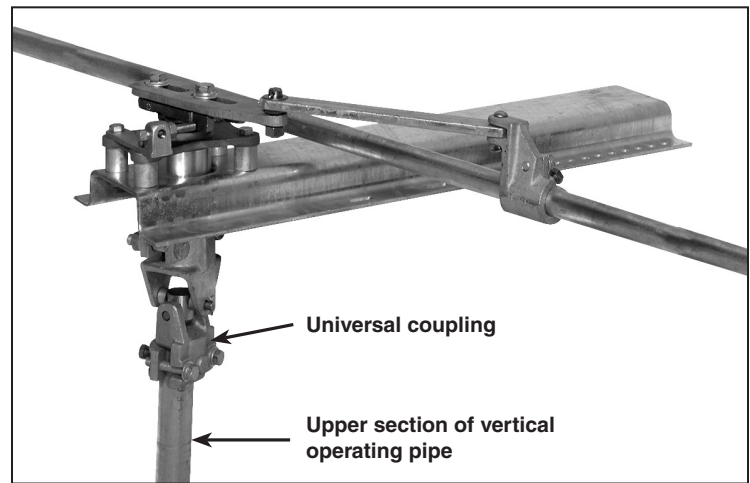

Figure 18. Install the uppermost section of the vertical operating pipe.
STEP 13. Insert the uppermost section of the vertical operating pipe into the universal coupling attached to the underside of one of the switch poles or to the outboard bearing assembly, as described in Step 4 or Step 5 on page 10. See Figure 18. Make certain the cutting tip of the piercing set screw does not protrude through the body of the pipe-coupling clamp.